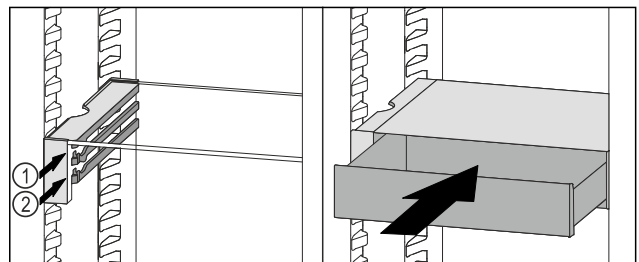

Fig. 101
- Place the VarioSafe drawer behind the stoppers on desired rib *Fig. 101 (1)* or *Fig. 101 (2)*.